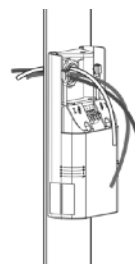

Fig 4
3. Route wires through knockout and into mounting bracket. **Fig 4.**